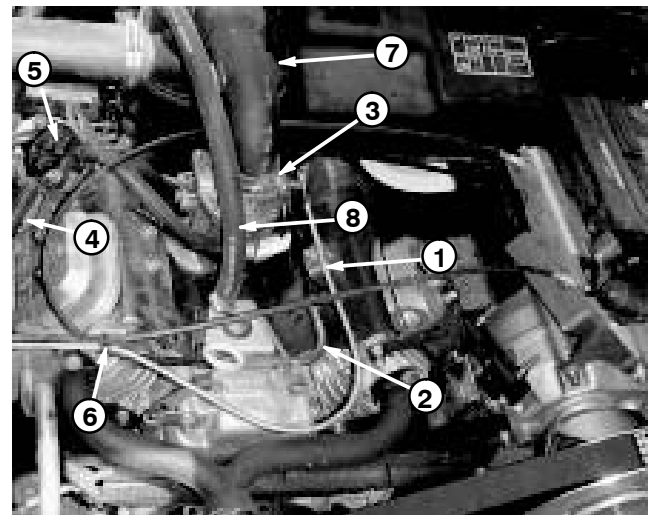

Figure 21
- B. Air intake hose from the carburetor (Fig. 21).
- C. Breather hose from the crankcase (Fig. 21).
5. Disconnect fuel hose from the fuel pump. Remove cable tie securing the choke, throttle, and shift cables to the bracket on the front cylinder head (Fig. 21).
9. Connect fuel hose to the fuel pump (Fig. 21).
- B. Air intake hose to the carburetor (Fig. 21).
- C. Breather hose to the crankcase (Fig. 21).
11. Secure choke, throttle, and shift cables to the bracket on the front cylinder head with cable tie (Fig. 21).